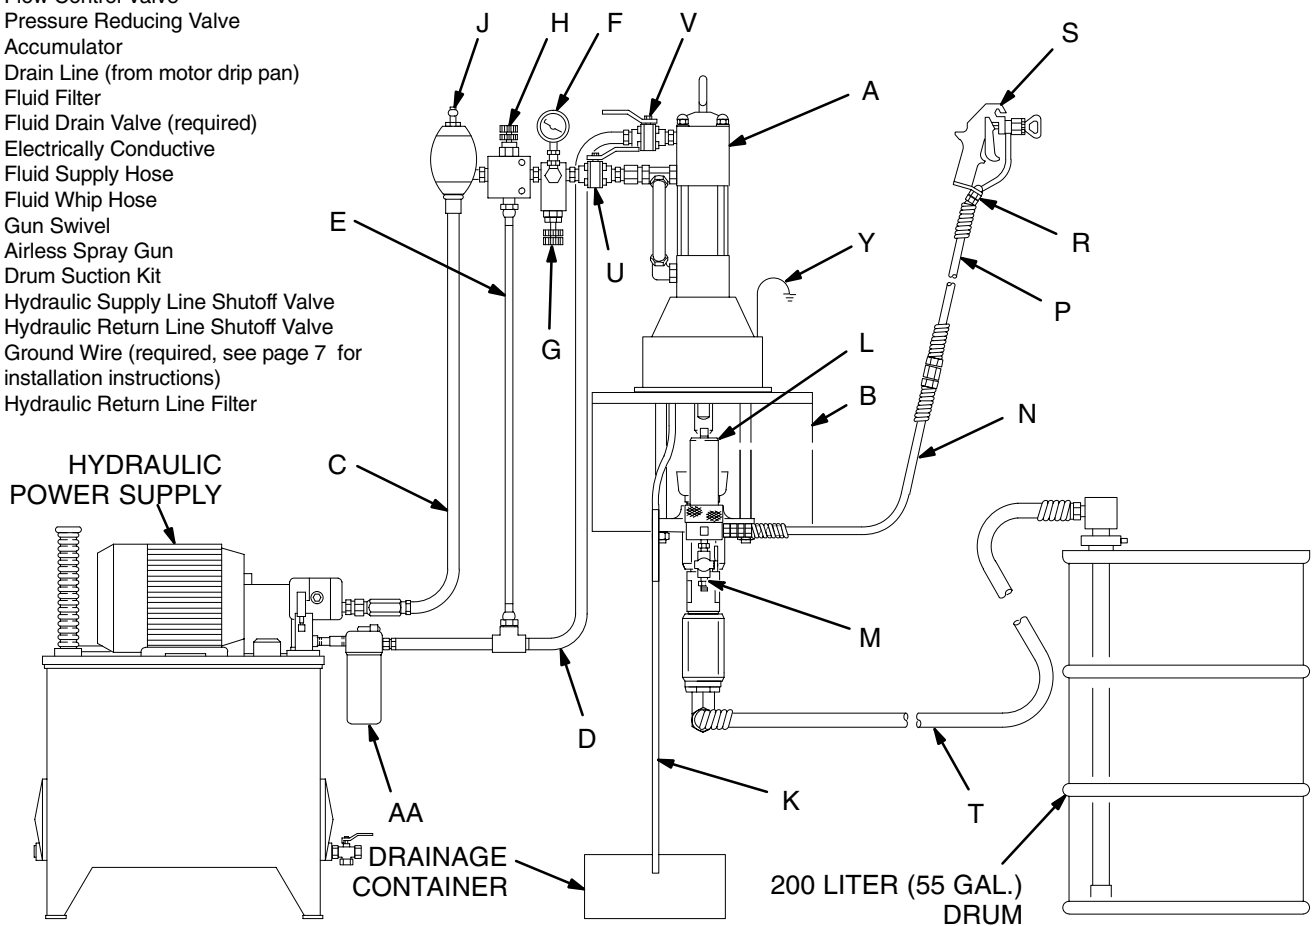

Fig. 3
Fig. 3 is only a guide for selecting and installing system components and accessories. Contact your Graco distributor for assistance in designing a system to suit your particular needs.
Mount the pump (A) to suit the type of installation planned. Fig. 3 illustrates a wall mount system. Pump dimensions and the mounting hole layout are shown on page 49.
On the hydraulic supply line (C), install the following accessories in the order shown in Fig. 3, using adapters as necessary:
- **A shutoff valve (U)** isolates the pump for service.
- **A fluid pressure gauge (F)** to monitor hydraulic oil pressure to the motor and to avoid overpressurizing the motor or displacement pump, and a **pressure- and temperature-compensated flow control valve (G)** to prevent the motor from running too fast and possibly damaging itself.
- **A pressure reducing valve (H), with a drain line (E)** run directly to the hydraulic return line (D).
- **An accumulator (J)** to reduce the hammering effect caused by the motor reversing direction.
- **A shutoff valve (V)** isolates the pump for service.
- **A filter (AA)** of 10 micron size.
Install the following accessories in the locations shown in Fig. 3, using adapters as necessary:
- **A fluid filter (L)** with a 60 mesh (250 micron) stainless steel element, to filter particles from the fluid as it leaves the pump.
- **A fluid drain valve (M)**, which is required in your system, helps relieve fluid pressure in the hose and gun (see the **WARNING** on page 10).
- **A gun (S)** dispenses the fluid. The gun shown in Fig. 3 is an airless spray gun for light to medium viscosity fluids.
- **A gun swivel (R)** allows freer gun movement.
- **A suction kit (T)** allows the pump to draw fluid from a supply container.
1. Refer to Fig. 3 on page 11. Connect the suction kit (T) to the pump's fluid inlet, and place the tube into the fluid supply.
3. Make certain that the supply line shutoff valve (U) and the return line shutoff valve (V) are closed.
5. Hold a metal part of the gun (S) firmly to the side of a grounded metal pail and hold the trigger open.
6. Open the return line shutoff valve (V) *first*, then slowly open the supply line shutoff valve (U).
9. If the pump fails to prime properly, open the drain valve (M). Use the drain valve as a priming valve until the fluid flows from the valve. Close the valve.
11. Use the fluid pressure gauge (F) and flow control valve (G) to control the pump speed and the fluid outlet pressure. Always use the lowest hydraulic flow and pressure necessary to get the desired results. Higher pressures cause premature tip/nozzle and pump wear.